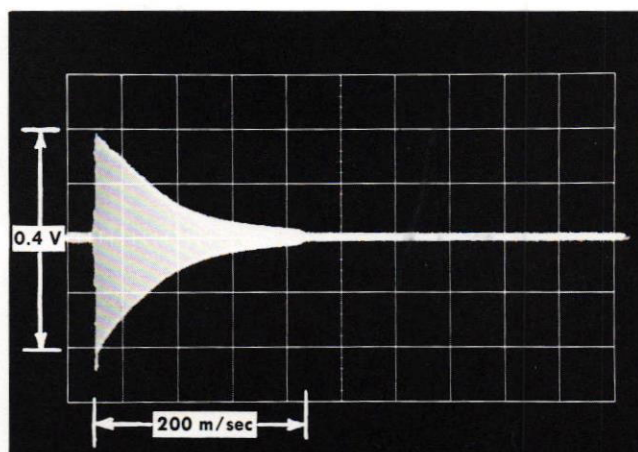

Fig. 6-10. Degauss waveform, coupled through  $10\ \Omega$  loop.
g. Check the stored display for a four-centimeter (0.4 V) damped waveform lasting approximately 200 milliseconds. See Fig. 6-10.